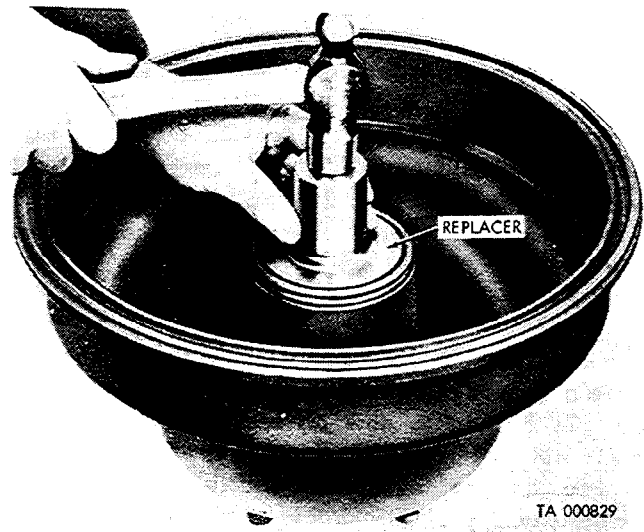

Figure 2-163. Installing inner bearing oil seal.
(4) Install the brake drum (para 2-131 h).
(5) Lubricate the inner bearing cone (L) with grease GAA, using a roller bearing lubricator or kneading the grease into the bearing rollers with the fingers. Position the cone in the inner bearing cup.
(6) Immerse a new inner bearing oil seal (M) in clean neats-foot oil for about 30 minutes to soften the leather. Remove the seal from the oil and roll with a smooth steel bar to condition the seal.
(7) Position the seal (M) in the hub with the lip of the seal next to the inner bearing cone (L). Fit the replacer (fig. 2-163) over the seal and drive the seal into position.